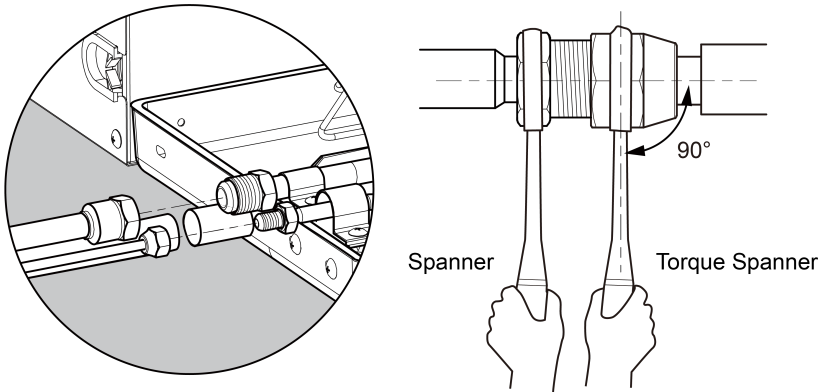

Fig.3.4.1
- (1) Before welding the pipeline sealing cap, please make sure there’s no refrigerant in pipeline. If welding it directly, it may cause unnecessary property damage or personal injury.
- (2) Conform to the following principles during pipe connection: Connection pipeline should be as short as possible. The height difference between indoor and outdoor units should be as short as possible. Keep number of bends as little as possible. The radius of curvature should be as large as possible.
- (3) Weld the connection pipes between indoor and outdoor unit. Please strictly conform to the requirements for welding process. Rosin joints and pin holes are not allowable.
- (4) When laying the pipes, be careful not to deform them. The radius of bending parts should be more than 200mm. The pipes can’t be repeatedly bent or stretched, otherwise the material will get harden. Do not bend or stretch the pipe over three times at the same position.
- (5) Please use a torque wrench to connect union nut on the indoor unit. See the Fig.3.4.1 as below.